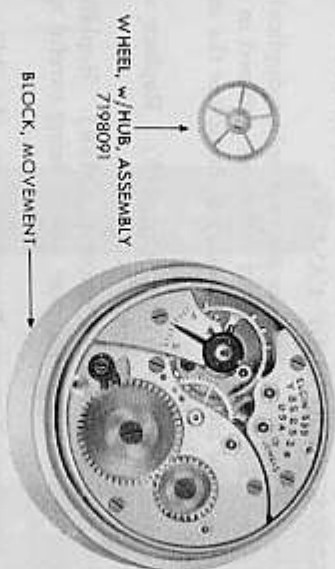

Figure 149 — Elgin Wrist Watch — Upper Third Wheel Removed
- (1) **REPLACE UPPER THIRD WHEEL (fig. 149).** Replace upper third wheel over center wheel pinion.